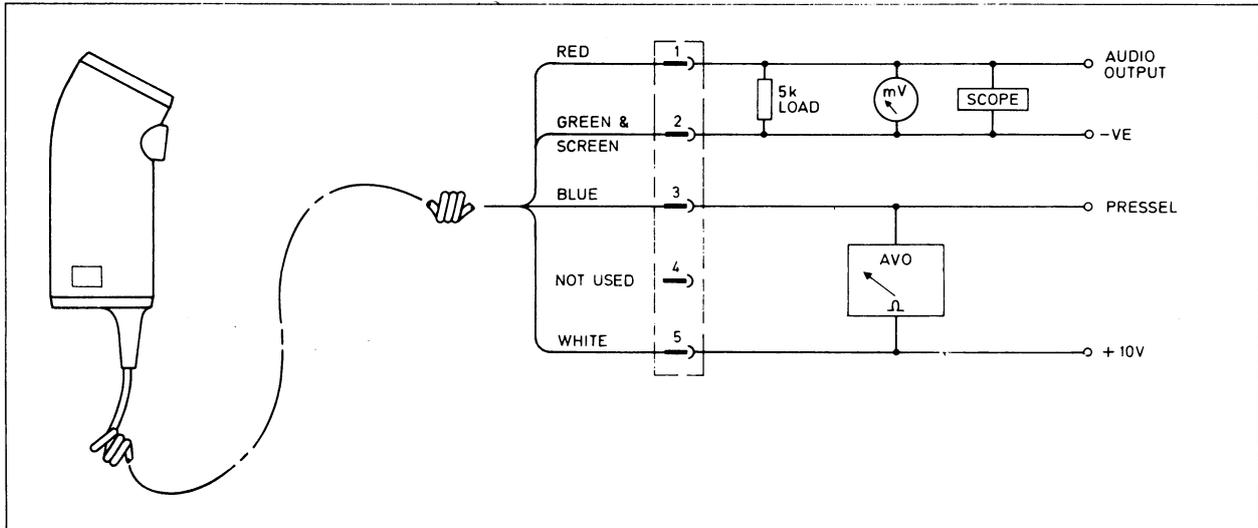

Fig. 2 Connection of Test Equipment
1. Connect to the microphone as shown in fig. 2.